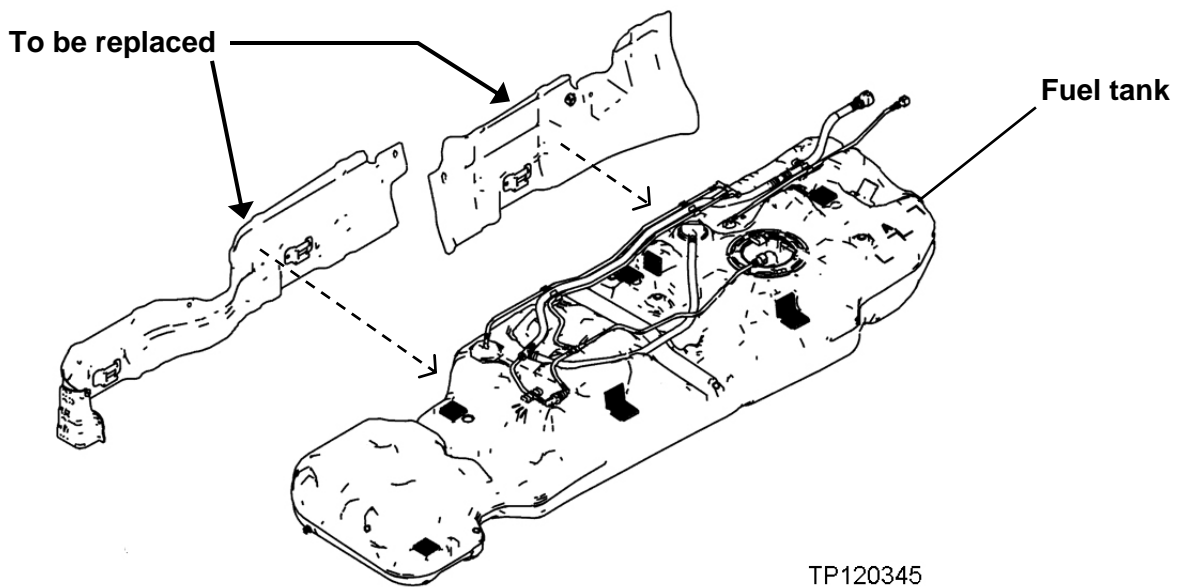

Figure 1
2. Both heat shields, 17285-1JA0A and 17285-1JA1A in Figure 1, will be replaced when the new fuel tank assembly is installed (see page 8, step 11).